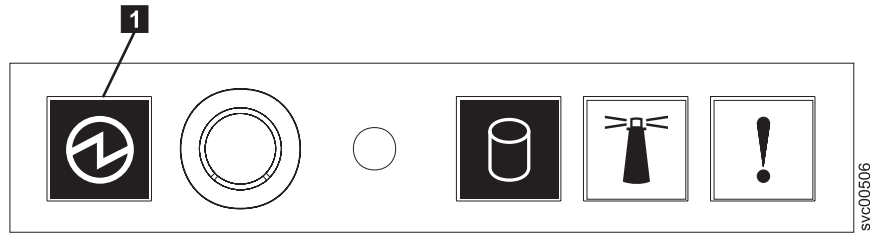

Figure 87. Power LED on the SAN Volume Controller 2145-8A4 operator-information panel
**Is the power LED on the operator-information panel continuously illuminated?** Figure 87 on page 373 shows the location of the power LED **1** on the operator-information panel.